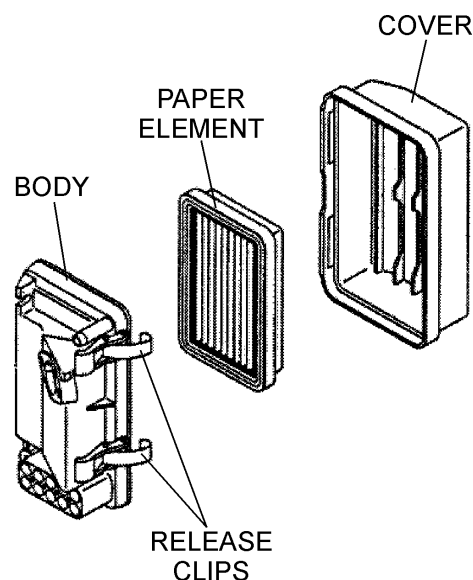

Figure 27. Engine Air Cleaner
1. Remove the air cleaner cover and foam filter element as shown in Figure 27.
2. Tap the paper filter element (Figure 27) several times on a hard surface to remove dirt, or blow compressed air [not exceeding 30 psi (207 kPa, 2.1 kgf/cm²)] through the filter element from the air cleaner case side. **NEVER** brush off dirt. Brushing will force dirt into the fibers. Replace the paper filter element if it is excessively dirty.